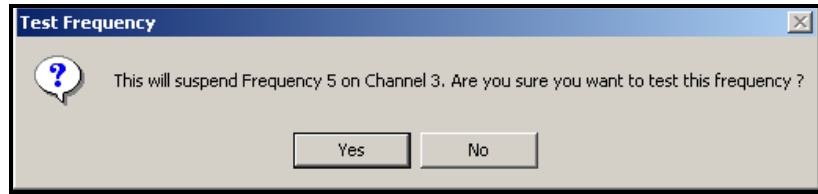

Figure 30: Test Frequency Prompt
2. A window similar to Figure 30 below should appear, asking if you want to test the Frequency. Click on Yes.